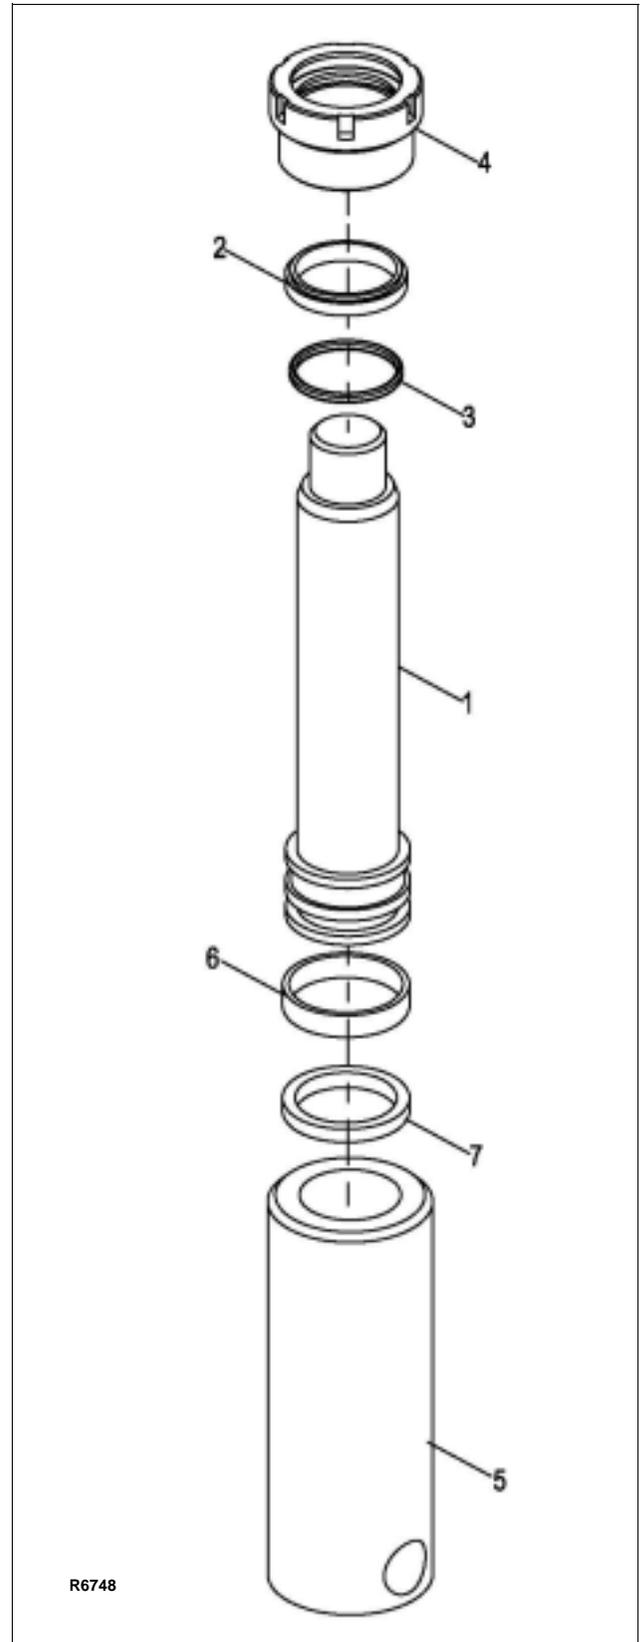

Figure 9-4 Lift Cylinder
2. Unscrew gland nut (4, Figure 9-4) from body (5).
3. Remove wiper (2) and O-ring (3) from gland nut (4).
4. Withdraw the cylinder rod (1) from body (5).
5. Remove guide ring (6) and seal ring (7) from rod (1).
**NOTE:** If the cylinder body (5) or piston rod (1) are damaged, the entire lift cylinder must be replaced.
6. Replace guide ring (6), seal ring (7), wiper ring (2) and O-ring (3).
8. Install new guide ring (6) and seal ring (7) on rod (1).
9. Insert piston rod (1) into body (5).
10. Install wiper (2) and O-ring (3) in gland nut (4).
11. Install gland nut (4, Figure 9-4) in body (5).